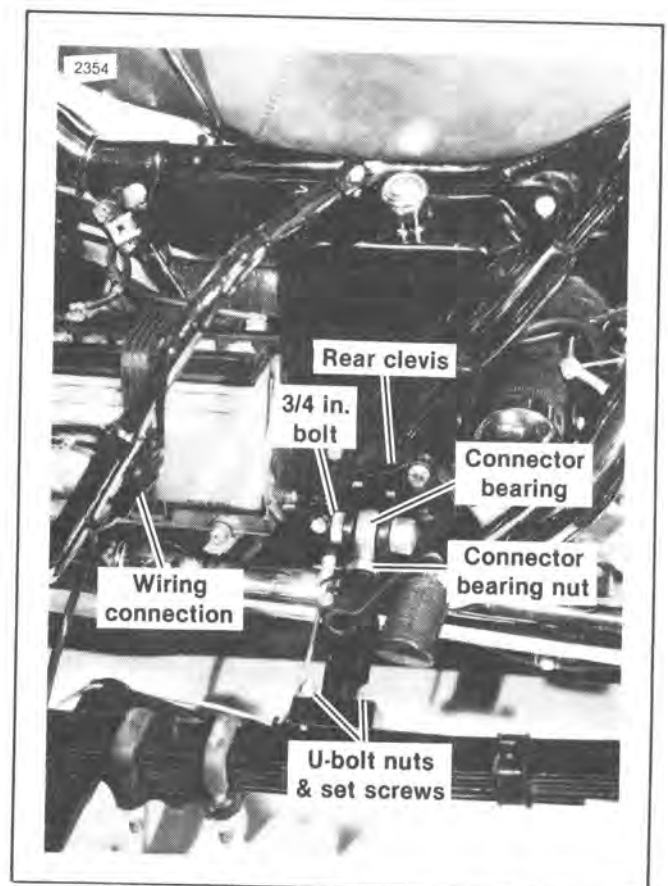

Figure 6-8. Rear Sidecar Connection
4. See Figure 6-8. Loosen the four U-bolt nuts and two set screws that attach the rear mounting bracket to the sidecar chassis. Shift rear footrest and mounting bracket with connector bearing on sidecar to line up with rear clevis on motorcycle. Install 3/4 in. diameter bolt through clevis and connector bearing. Nut and lockwasher should be toward front of motorcycle. Do not tighten at this time.
7. Install sidecar wiring connection to motorcycle wiring connection as shown in Figure 6-8 and disconnect right rear directional light.
- Disconnect sidecar electrical connection from motorcycle (see Figure 6-8). Reconnect motorcycle electrical connection to right turn signal at saddlebag.